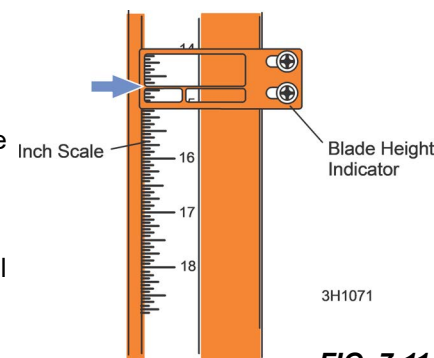

FIG. 7-11
3. View the blade height scale with eyes level with the indicator. **See Fig. 7-11.**